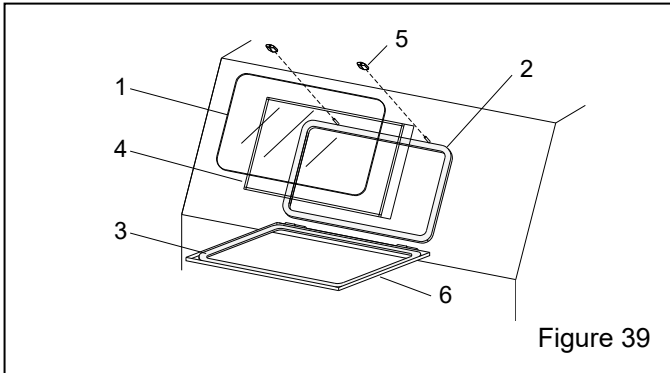

Figure 39
9.3 View-Window Assembly – Figure 39